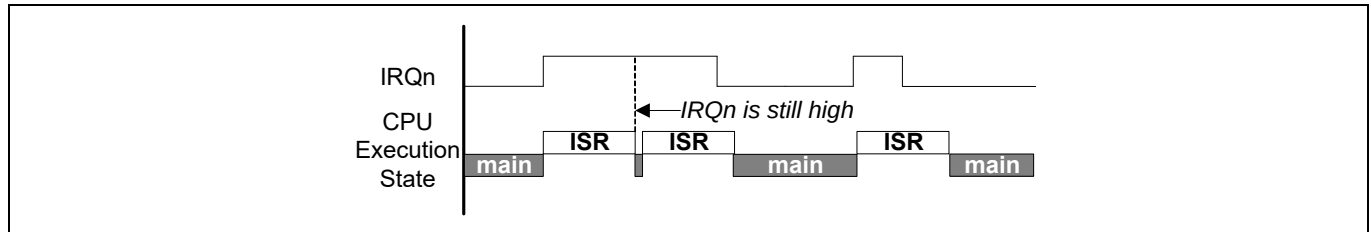
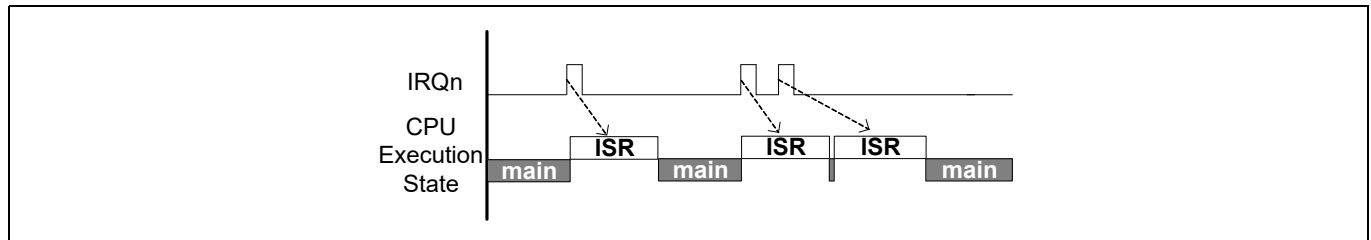

Figure 6-3. Level interrupts
Figure 6-4. Pulse interrupts
Figure 6-3 and **Figure 6-4** show the working of level and pulse interrupts, respectively. Assuming the interrupt signal is initially inactive (logic low), the following sequence of events explains the handling of level and pulse interrupts:
3. When the ISR is being executed by the CPU, one or more rising edges of the interrupt signal are logged as a single pending request. The pending interrupt is serviced again after the current ISR execution is complete (see **Figure 6-4** for pulse interrupts).
4. If the interrupt signal is still high after completing the ISR, it will be pending and the ISR is executed again. **Figure 6-3** illustrates this for level triggered interrupts, where the ISR is executed as long as the interrupt signal is high.